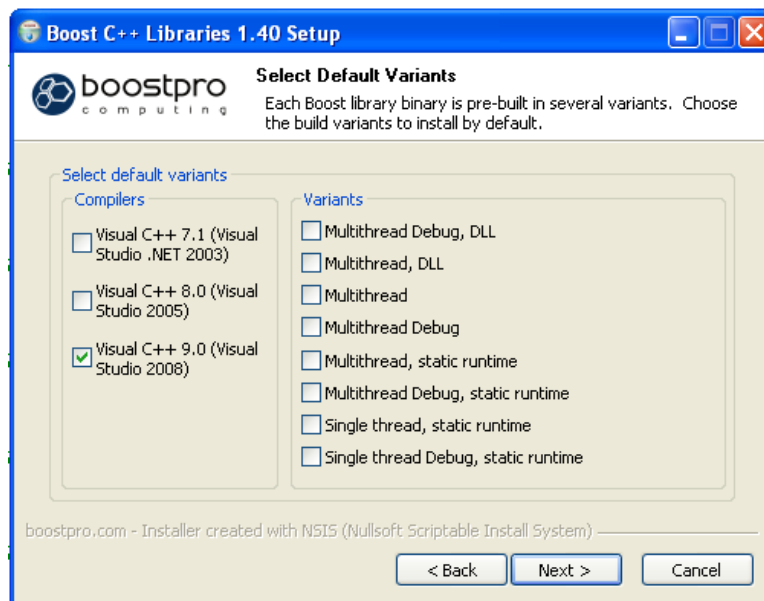

Figure 2: Boost installation; compilers.
- Run the installer and select beyond the default ones, the following libraries: **DateTime**, **Regex**, **System** and **Thread**, as presented in figures 2 and 3.